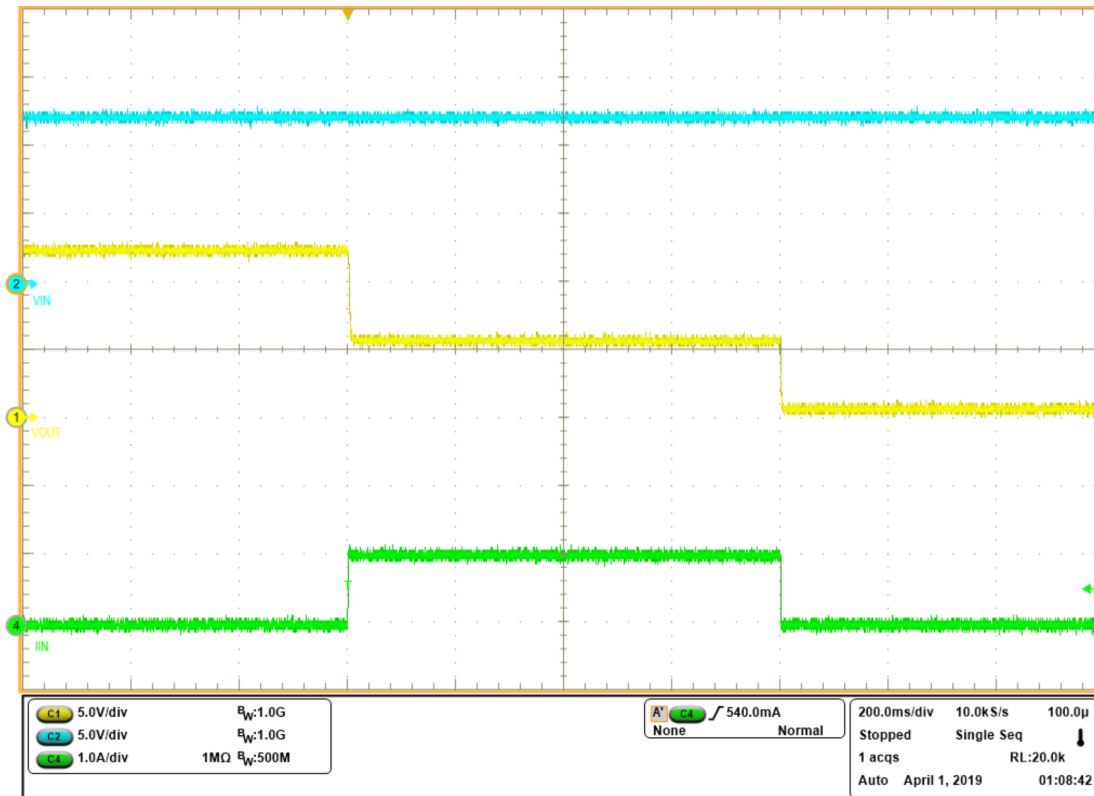

Figure 4. J11 = 3-4, Current Limit (1.0 A) Test with Latch (CH2)
- Set the output load at $5.0 \Omega \pm 0.5 \Omega$ on CH2 and then enable the load. Turn on the VIN2 power supply and verify that input/output current is limited as per the setting in Table 9. Verify the device is in latched-off mode and that the FLTb2 RED LED (D5) turns ON as shown in Figure 4. The level of the current pulse should match with the load current limit (based on the respective jumper setting) as shown in Table 9.